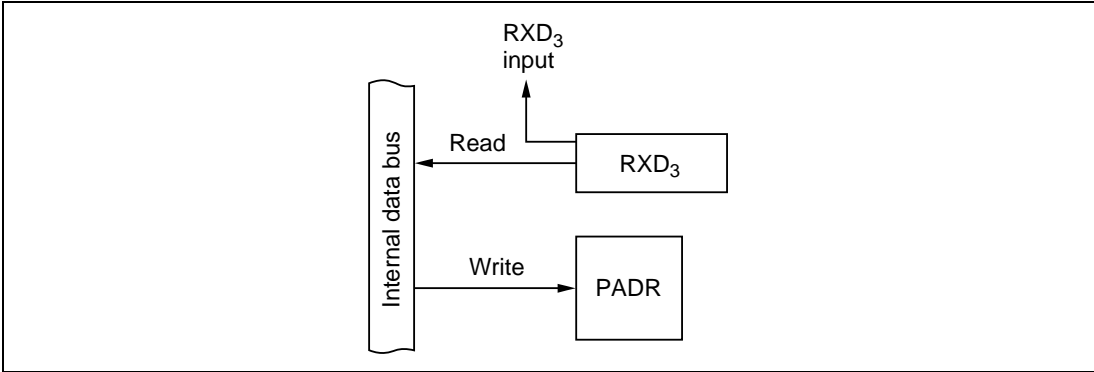

Figure 10-71 RXD₃ Input (Modes 1, 2, 4, 6, and 7)
(9) **RXD₃ Input (PA₅: Modes 1, 2, 4, 6, and 7):** Figure 10-71 shows a block diagram illustrating the RXD₃ input function. Table 10-54 indicates register read/write data. When PA₅ is used for RXD₃ input, the value written in PADR is ignored, but PADR can be read to monitor the level at the RXD₃ pin.